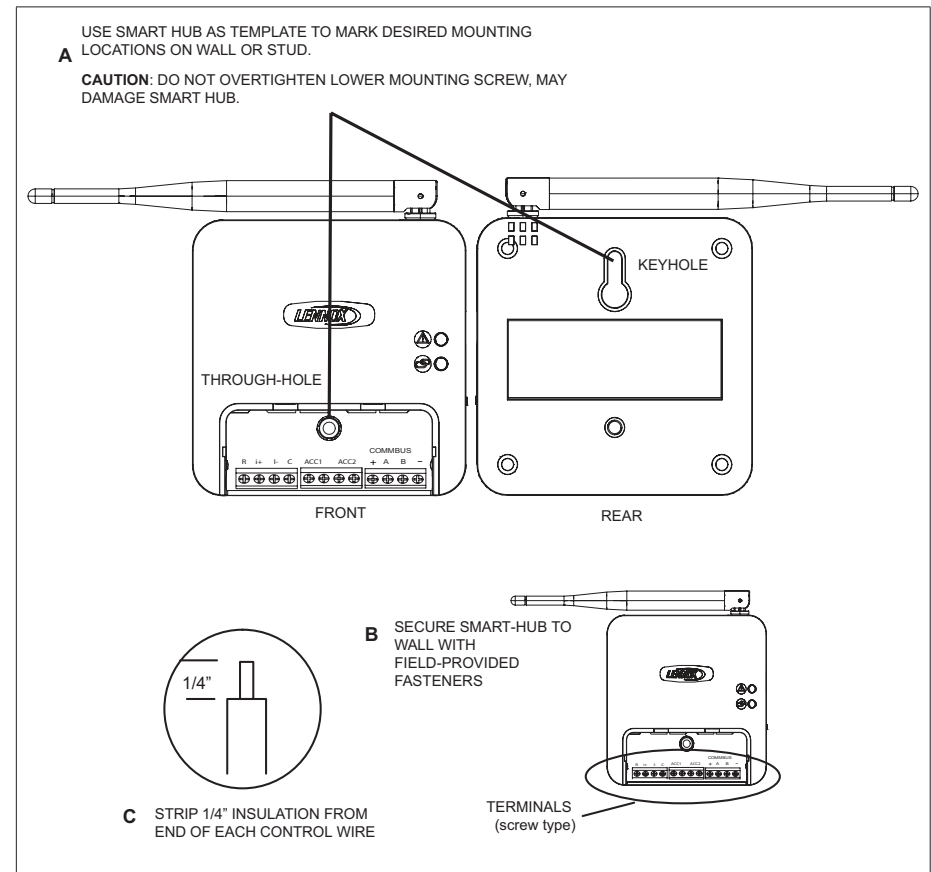

Figure 14. Smart Hub Installation
2. Use the procedure outlined in “Figure 14. Smart Hub Installation” on page 14 to install the smart hub controller.